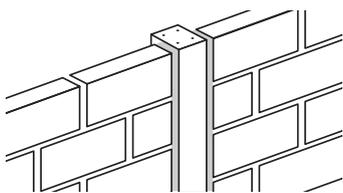

Fig. 4
- Abutments of walls and columns (See Figure 4)